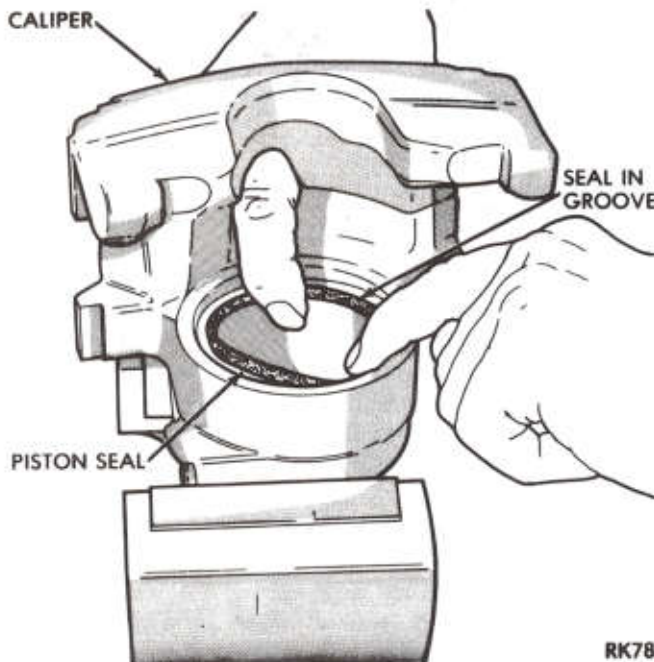

Fig. 12—Installing Piston Seal (Typical)
(2) Lubricate the new piston seal with clean brake fluid and position the seal in the groove in the cylinder bore. Position seal in one area of groove and gently work around and into the groove until properly seated. Be sure seal is not twisted or rolled (Fig. 12).